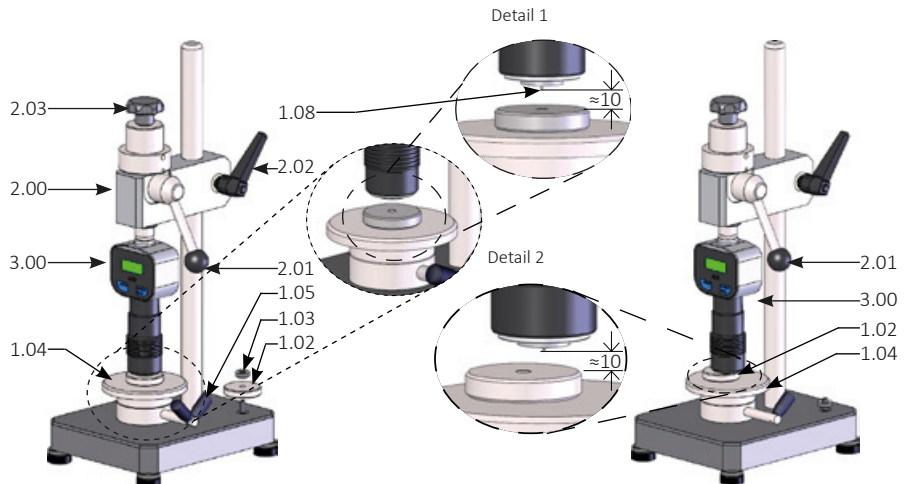

Fig. 4 Alignment of the specimen table Shore A, B, 0, 00, 000, 000 S, A0, E, L/c, Asker C
- › Loosen the knurled nut (1.03, Fig. 4) to remove the adjustment gauge (1.02, Fig. 4) from the base plate.
- › Always make sure your hand is firmly holding the mounting device (2.00) when releasing the clamping lever (2.02, Fig.4) to avoid a sudden drop of the mounting device and hardness tester. The crash of the hardness tester on the specimen table may cause damage to the indenter (1.08, Fig. 4).
- › Slowly move down the hardness tester (3.00) until the tip of its indenter is approx. 10 mm above the surface of the adjustment gauge (see Detail 2, Fig.4).
- › Tighten the clamping lever (2.02, Fig.4) of the mounting device.
- › Unlock the specimen table by loosening the clamping lever (1.05, Fig. 4).
- › Slowly lower the hardness tester onto the adjustment gauge by swinging the loading lever (2.01, Fig. 4) downwards.
- › Slowly lower the hardness tester onto the Control Ring by swinging the loading lever (2.01, Fig. 4) downwards. The indenter should insert in the center hole of the Control Ring.
- › Fix the clamping lever (1.05, Fig. 4) to lock the specimen table.